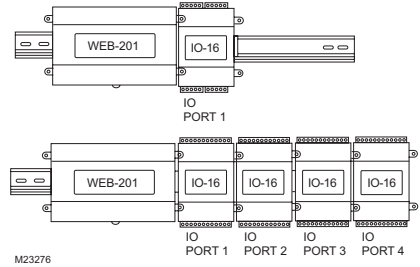

**Fig. 10. Analog output wiring diagram.**
Analog Outputs (AO) are referenced by the terminals labeled *An* and 0 V (ground). Each AO can supply a maximum of 4 mA over the entire 0 to 10 Vdc range. The minimum input impedance of a device controlled by an AO must be greater than 2500 ohms. Typical wiring for an AO is shown in Fig. 10. For each AO, use a **VoltageOutputWritable** in the station database.